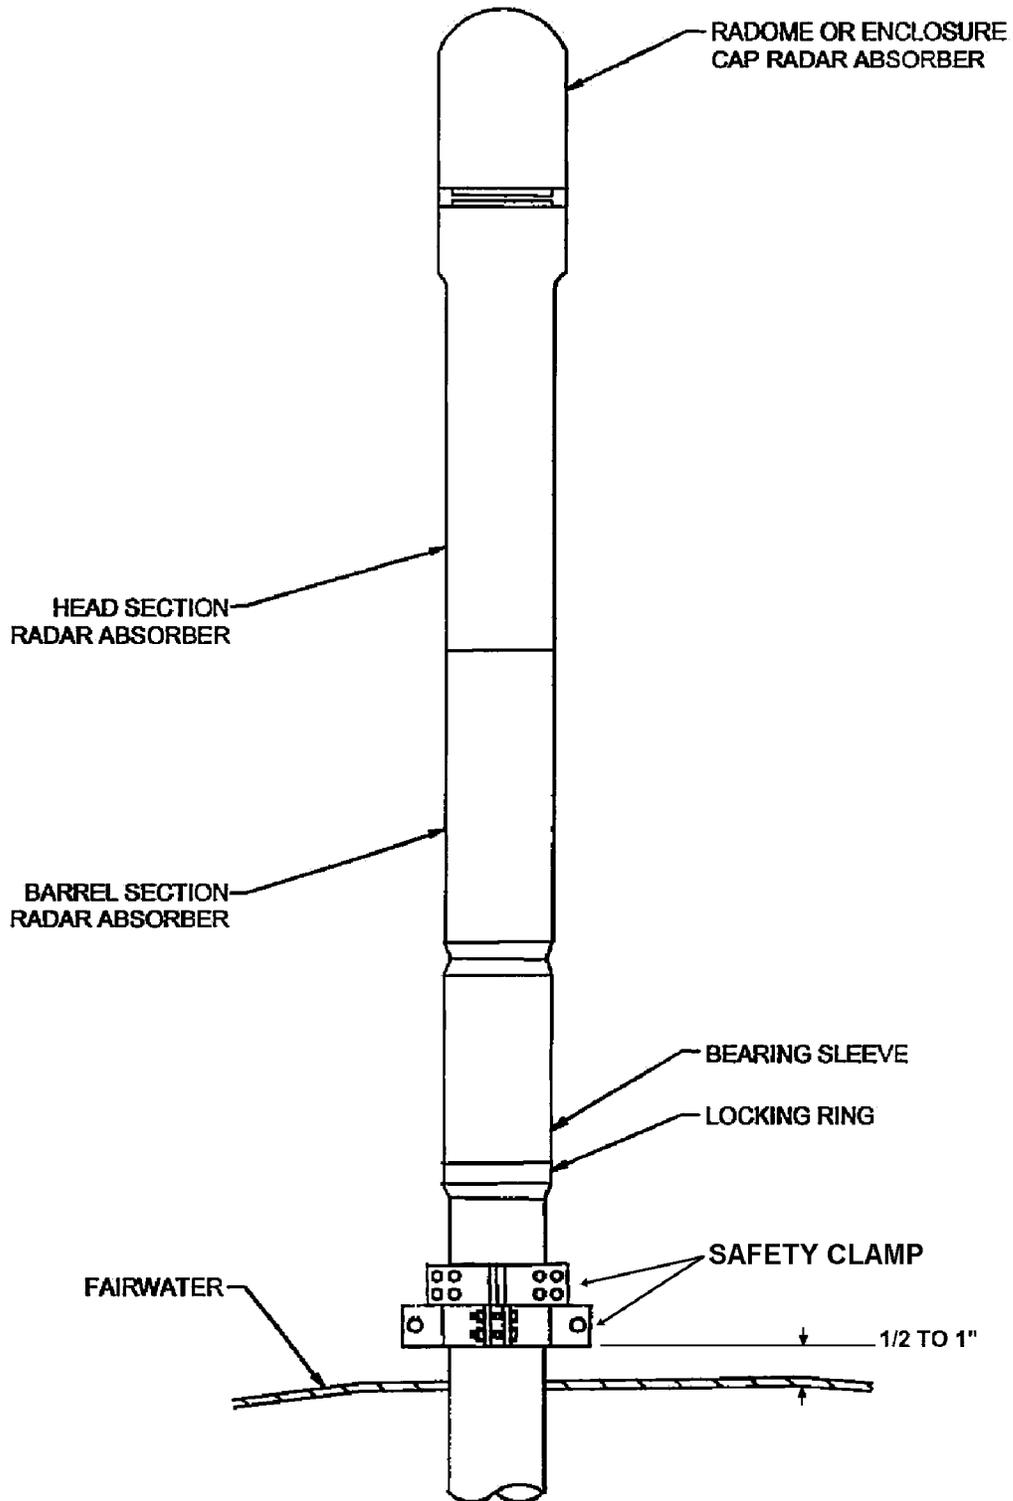

Figure 3-2 Installation of Periscope Safety Clamps
- c. Install the lower safety clamp on the periscope so that it is 1/2 to 1 inch above the sail top. See Figure 3-2.
- i. Orient the second clamp lifting lugs 90 degrees from the first safety clamp and install it above and snug against the installed clamp using the procedures given in step 3.1.3.d through 3.1.3.h. See Figure 3-2.